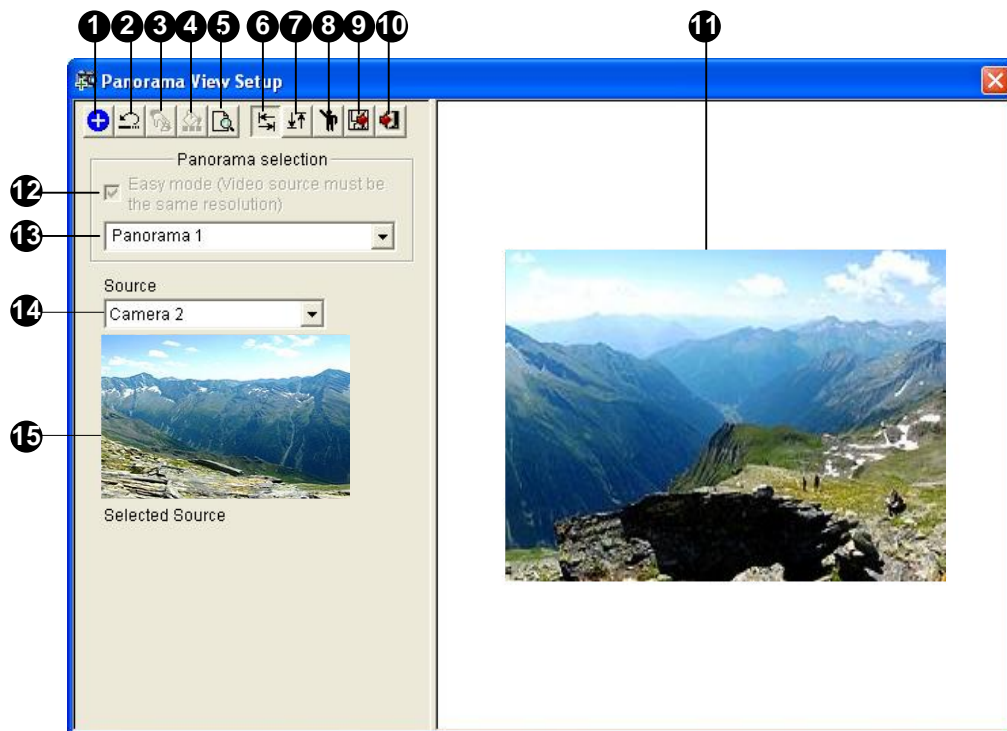

Figure 3-48
1. Select one panorama set (No. 13, Figure 3-48) from the drop-down list. If you want to rename the selected panorama set, type the name in the field.
2. Select one camera from the Source drop-down list (No. 14, Figure 3-48) and then click **Manual Setting** (No.3, Figure 3-48). This dialog box appears.
8. When you finish stitching images, click the **Save Before Exit** button (No.6, Figure 3-48) to save the created panorama view before exiting the Panorama View Setup dialog box.
1. Select **Easy Mode (Video source must be the same resolution)** (No. 12, Figure 3-48).
- Use the **Source** drop-down list (No. 14, Figure 3-48) to select the first camera view to be placed in the panorama and click the **Add**  button. The first camera view is added to the Preview Window.